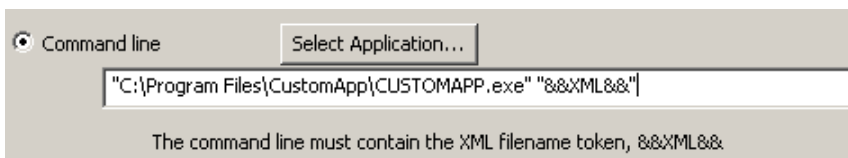

Figure 115. Example of a command line.
If you select **Command Line**, click on **Select Application** to locate the software application that you want to automatically launch when the file is generated. This application must accept a command line filename argument. After you locate and select the application, the application pathname will appear in the **Command Line** field enclosed in quotation marks, and the string “&&XML&&” will be automatically appended to it, as shown in Figure 115.
- If you manually enter the application pathname, it must be enclosed in quotation marks, as shown in Figure 115.